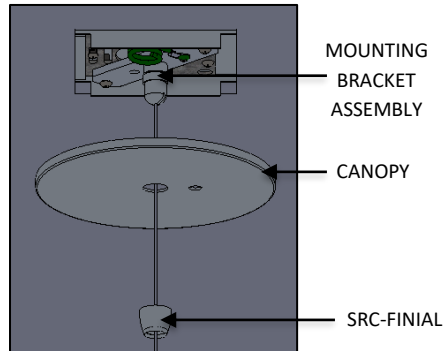

FIG. 42 – CANOPY DISASSEMBLY
34. Once the ATLA FIXTURE BODY is secured to the AIRCRAFT CABLE at the GRIPLOCK, and the GLOBE is secured by the TOP COVER and FITTER, unthread the SRC-FINIAL from the MOUNTING BRACKET ASSEMBLY and lower the CANOPY as shown below in FIG 42. Be careful not to damage finished surfaces.